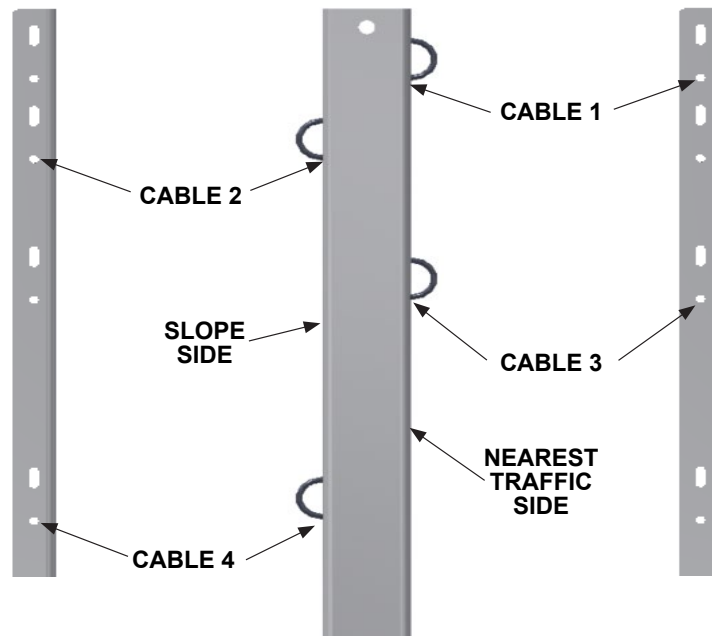

Figure 14
1. Locate the cables on CET™ U-Shaped Post Four as shown in Figure 14.